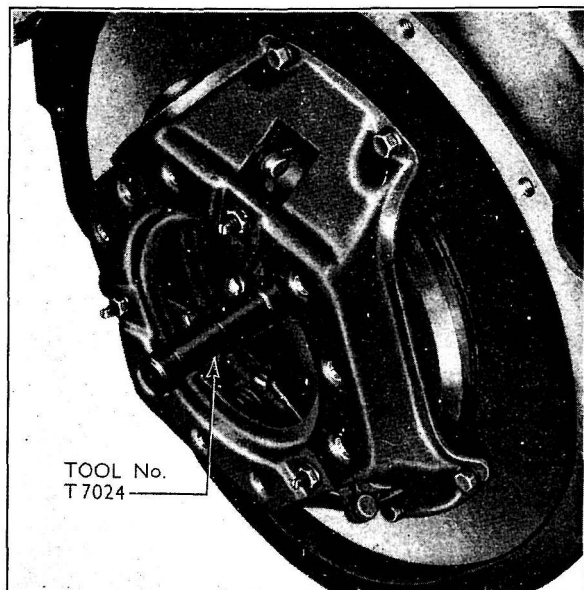

Fig. 52
1. Lightly pack the recess behind the flywheel spigot bearing with high melting point grease and, if a single clutch is to be fitted, place the clutch disc on the flywheel, longest spline boss to the outside, using locator, Tool No. T.7024, (see Fig. 52). Fit the pressure plate assembly over the clutch disc and retain this in position with six bolts and spring washers.